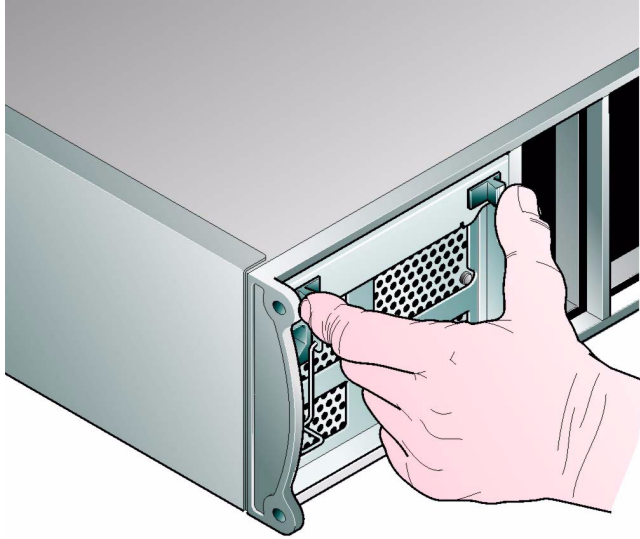

Figure 2-7 Installing an AC Power Supply Cooling Module (2)
- 3 Cam the module home by manually closing the PSU handle (Figure 2-7). A click should be heard as the handle latches engage.